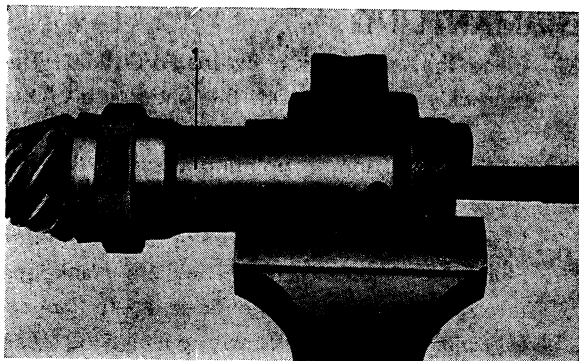
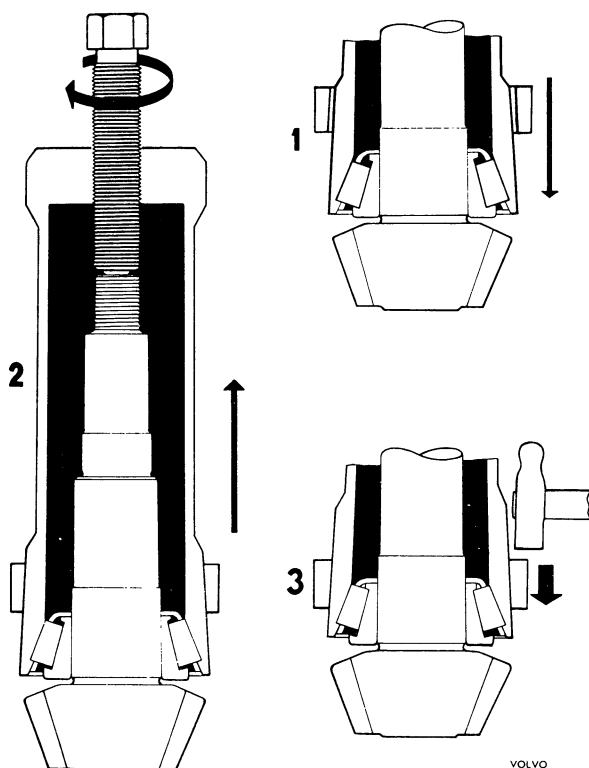
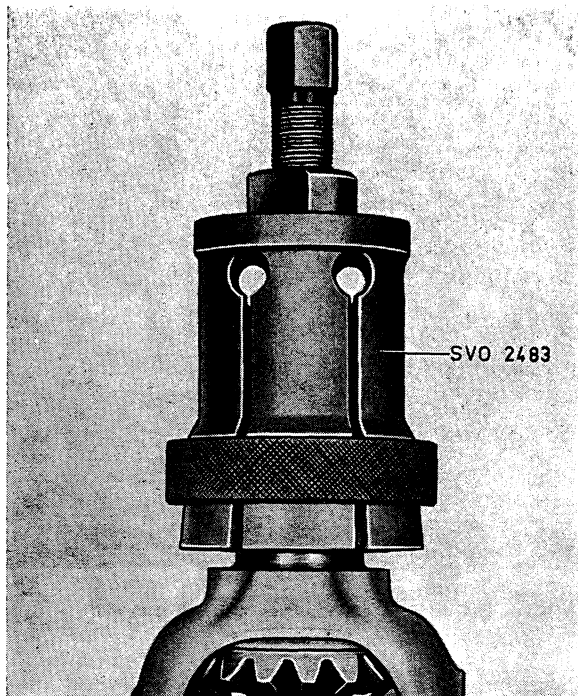

Fig. 4-138. Removing rear pinion bearing
Fig. 4-139. Fitting puller
Fig. 4-141. Removing differential carrier bearings
11. If necessary, pull off the rear bearing from the pinion with puller SVO 2392, see Fig. 4-138. The puller is fitted in the in the following way: Move the puller down over the rollers and press down the lock ring. Then pull up the puller with the bolt until the rollers lie flush with the edge of the inner race and the edge on the puller. Knock out the lock ring with a hammer. See also Fig. 4-139.
ler SVO 2483, see Fig. 4-141. Do not loosen the shims. Concerning the fitting of the puller, see also Fig. 4-139.